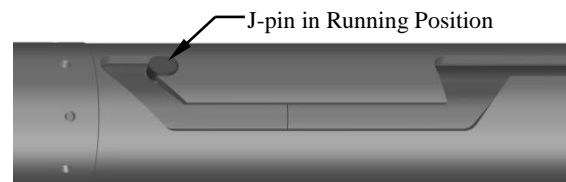

Fig. 7
L-2.18) Position J-pin in running position in J-slot of J-pin bottom sub (23) (Fig. 7).